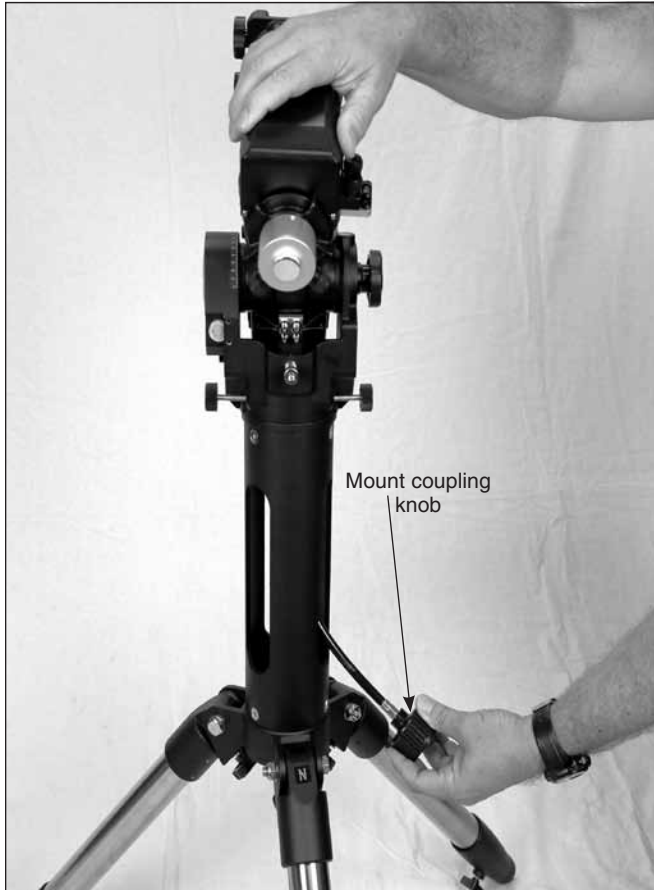

Figure 5. Turn the large knob on the flex cable clockwise to attach the mount head to the pier-pod.
4. While supporting the mount head with one hand, turn the mount coupling knob (on the flexible cable) clockwise until tight; this firmly attaches the mount head to the pier (**Figure 5**).